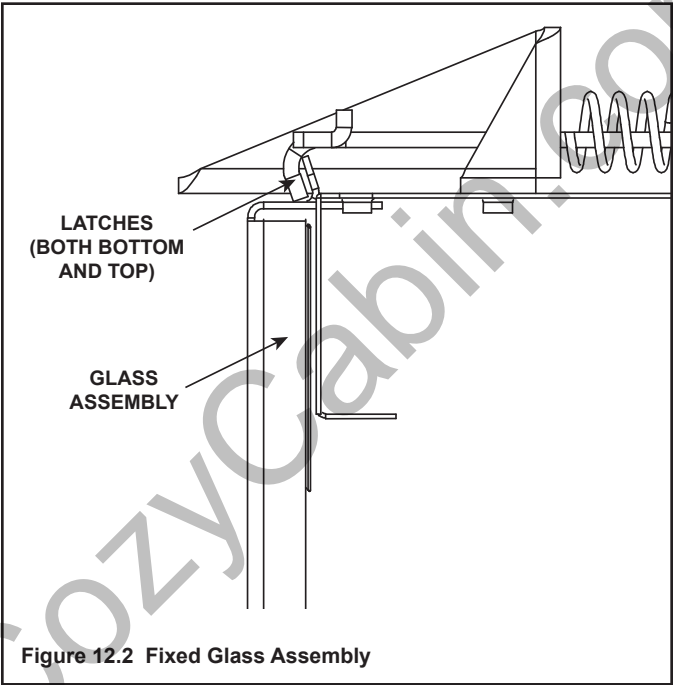
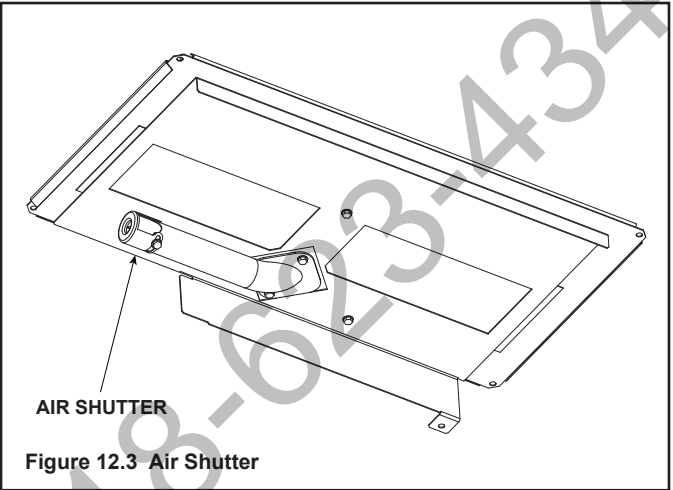

Figure 12.2 Fixed Glass Assembly
Figure 12.3 Air Shutter
- Place dime-size pieces of Glowing Embers® just in front of the port trail, but not on or in between the ports. See Figure 12.2 (Escape-I30-C) or Figure 12.3 (Escape-I35-C). Care should be taken so that the ports are not covered. Failure to follow this procedure will likely cause lighting and sooting problems.
- The glass assembly fastens to the fireplace in four places. The fastening mechanisms are spring-loaded glass latches. An example of the glass latch is shown in Figure 12.2.
Air shutter settings should be adjusted by a qualified service technician at the time of installation. The air shutter is set at the factory for minimum vertical vent run. Adjust air shutter for longer vertical runs. See Figure 12.3.